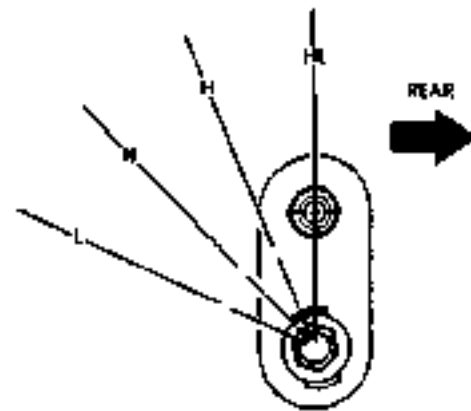

Figure 5-71: Range lever Positions
4. Verify that transfer case range lever is in high lock position. This is last detent toward rear (Figure 5-71). Move lever fully into detent if necessary.